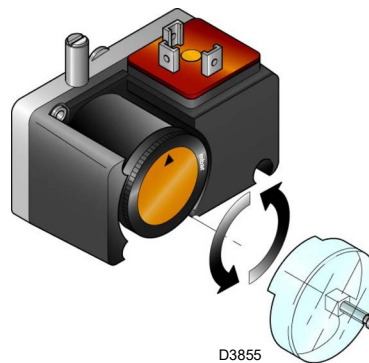

Fig. 34
- Adjust the pressure switch for the valve leak detection control device (PVP Kit) (Fig. 34 at page 36), if present, according to the instructions supplied with the Kit itself.
Adjust the pressure switch for the valve leak detection control device (PVP Kit) (Fig. 34), if present, according to the instructions supplied with the Kit itself.